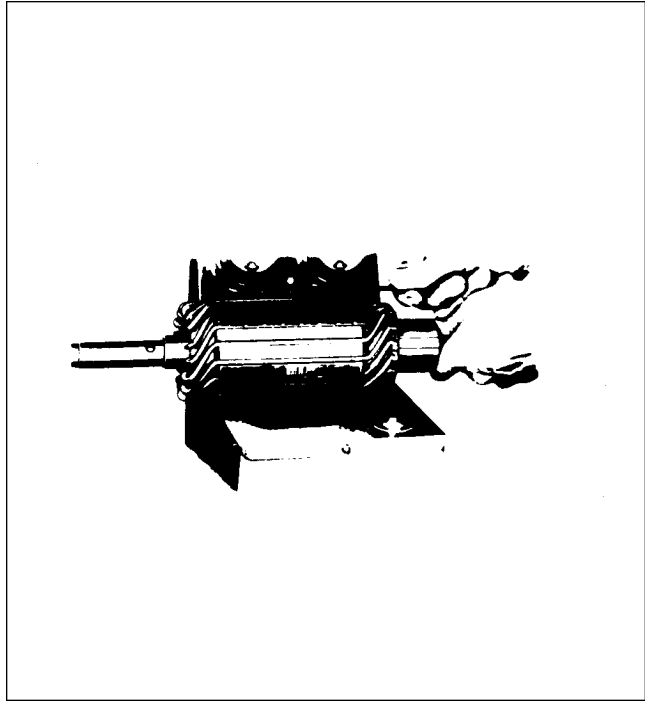

Figure 11-40. Testing Motor Armature for Short
- To test for shorted armature coils, a growler is used. (Refer to Figure 11-40.) The armature is placed on the growler and slowly rotated by hand while a steel strip is held over the core so that it passes over each armature core slot. If a coil is shorted, the steel strip will vibrate.